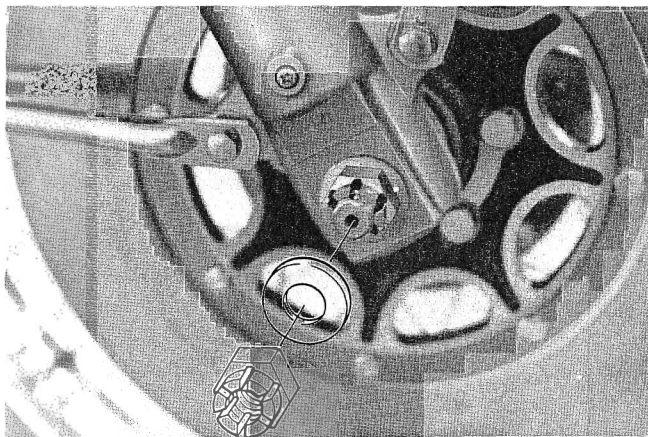

Fig. 15
11. Install the plain washer and wheel shaft nut on the wheel shaft, and tighten the nut with specified torque. (Fig. 15)